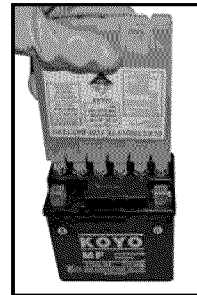

Figure 21
- Wear eye protection and rubber gloves for this step. Once battery strip is removed, locate electrolyte in bottle and place over the six openings. Press firmly down on bottle allowing the battery to pierce the six in-line openings in bottle. Let electrolyte drain into battery until bottle is completely empty. (see figure 21)